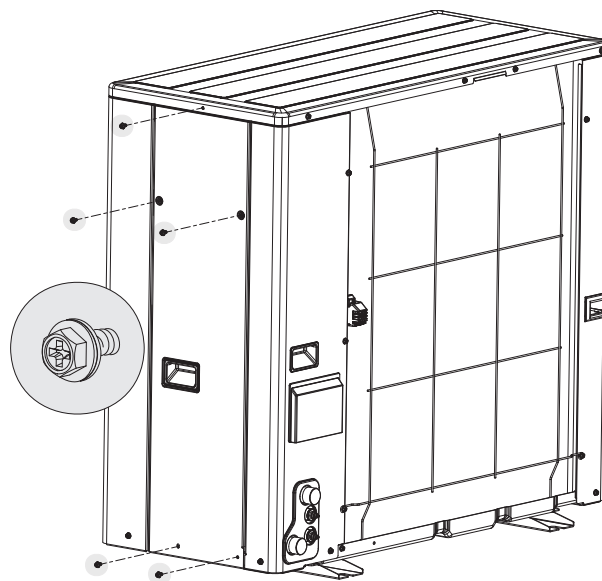

Figure 28. Heat Pump - Panel Removal
1. To remove the panel, the 4 lower screws shown in *Figure 28* are removed using an appropriate tool.